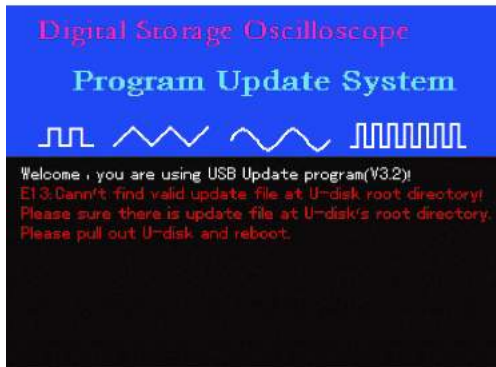

Figure 5-8
3.During upgrade, if the system cannot find the upgrade document in the USB root directory, the message in Figure 5-8 will appear : “E13 : Can’t find valid update file at U-disk root directory! Please sure there is update file at U-disk’s root directory, Please pull out U-disk and reboot.”